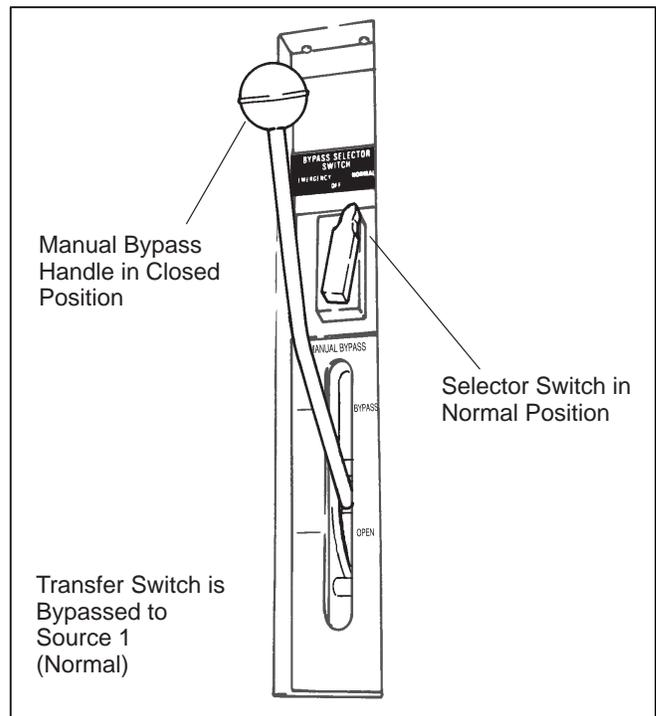

FIGURE 3-3. MANUAL BYPASS OPERATION
1. Turn the Source Selector Switch to the Normal position (Figure 3-3).